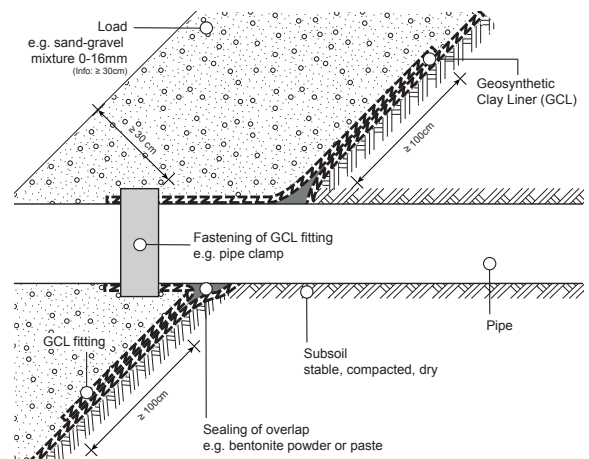

Fig. 15
18.3 Typical Bentofix® attachment to vertical and horizontal pipe penetrations is shown in figure 15.